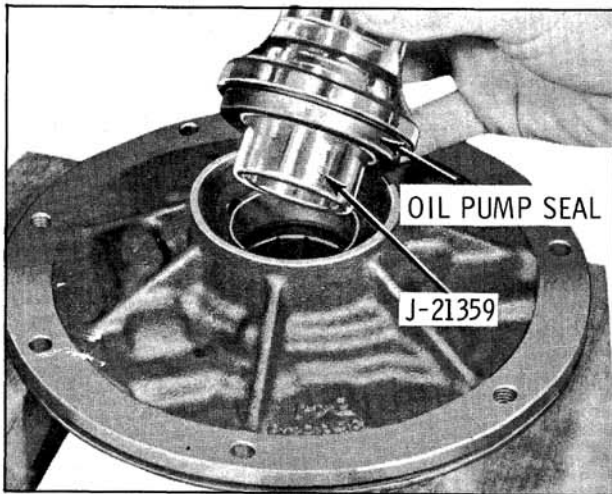

Fig. 6-421 Install Oil Seal
3. Using Installer J-21359, tap in new oil seal. (Fig. 6-421)